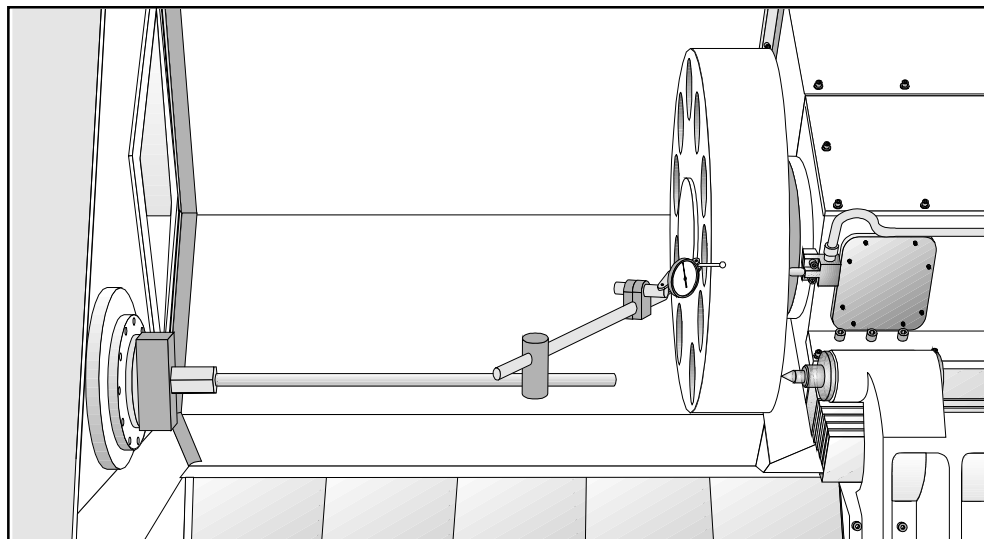

Fig. 3-1 Dial indicator in position to check X-axis.
1. Place a dial indicator and base on the spindle retaining ring with the tip of the indicator positioned on the outside diameter of the turret, as shown in Fig. 3-1.
An alternate method for checking backlash is to place the dial indicator as shown in Fig. 3-1 and manually push on the turret in both directions. The dial indicator should return to zero after releasing the turret. NOTE: The servos must be on to check backlash by this method.